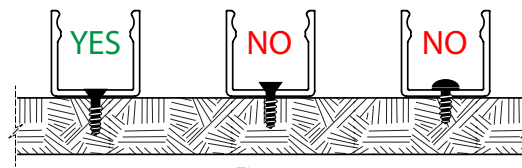

Figure 8
**IMPORTANT NOTE:** *If bugle head screws are not available you will need to countersink the holes so screw head sits flush in bottom of Mounting Channel. If the screw head projects more than 1/16" above, then the light engine will not seat properly into the bottom of channel. (Figure 8)*